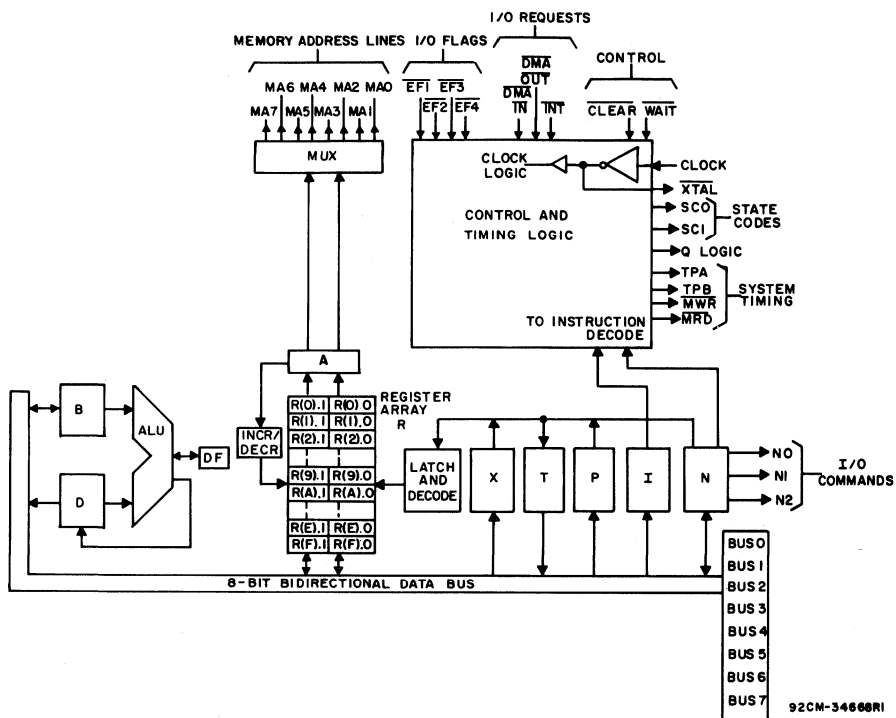

Fig. 9 - CDP1802A/3 block diagram.
The CPU block diagram is shown in Fig. 9. The principal feature of this system is a register array (R) consisting of sixteen 16-bit scratchpad registers. Individual registers in the array (R) are designated (selected) by a 4-bit binary code from one of the 4-bit registers labeled N, P, and X. The contents of any register can be directed to any one of the following three paths: